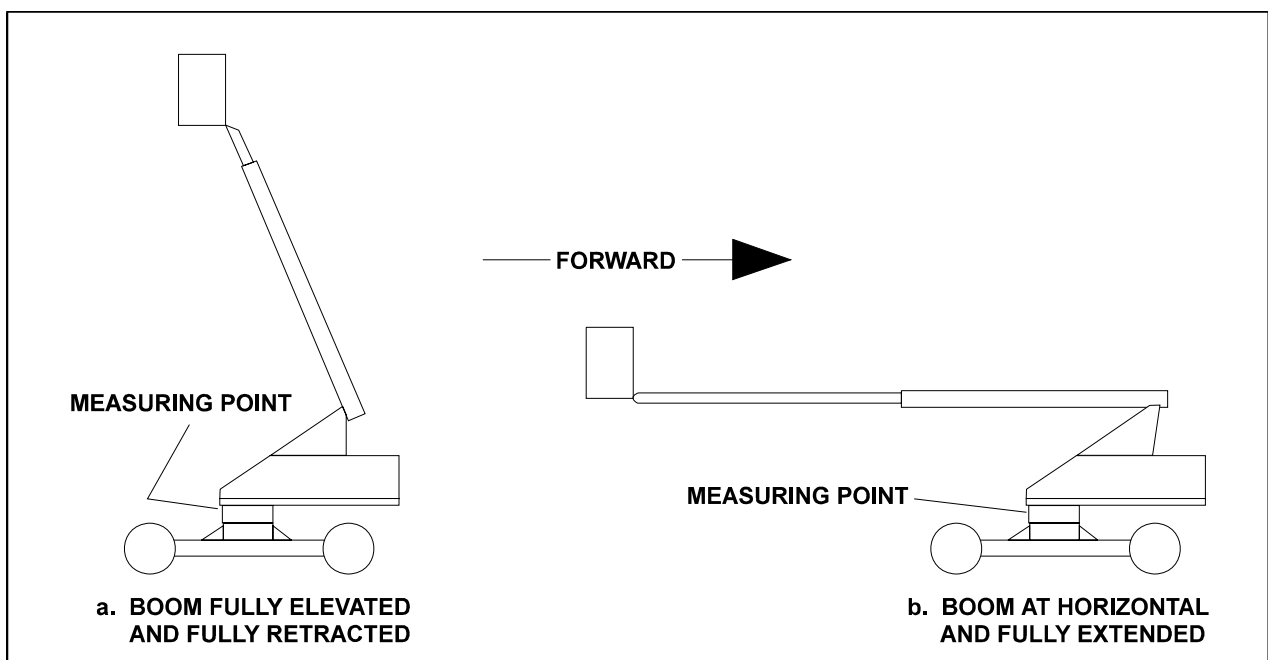
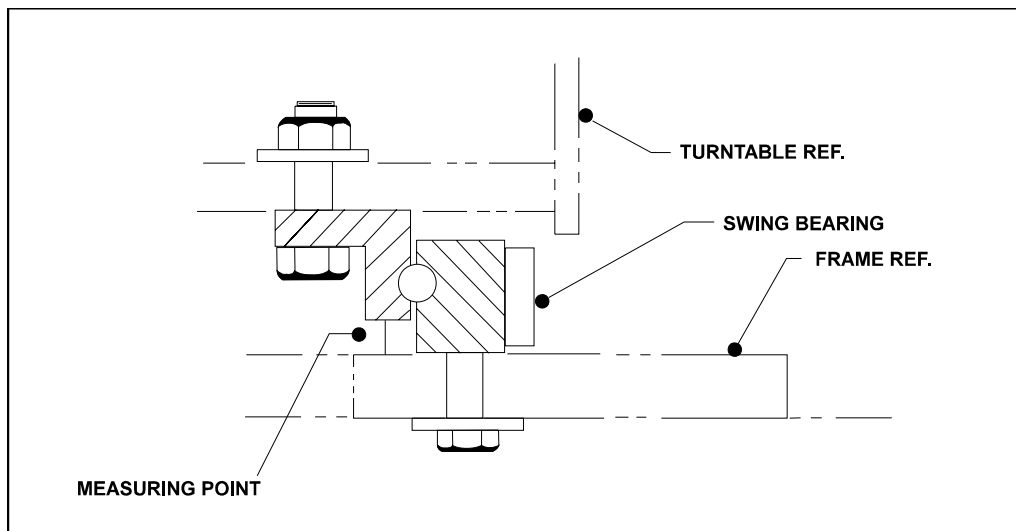

Figure 2-16. Swing Bearing Tolerance Boom Placement
Figure 2-17. Swing Bearing Tolerance Measuring Point
1. From the underside of the machine, at rear center, with the boom fully elevated and fully retracted (See Figure 2-16.), using a magnetic base dial indicator, measure and record the distance between the swing bearing and the frame. (See Figure 2-17.)
2. At the same point, with the boom at horizontal extended until red marking band on mid section is exposed (See Figure 2-16.), using a magnetic base dial indicator, measure and record the distance between the swing bearing and frame. (See Figure 2-17.)